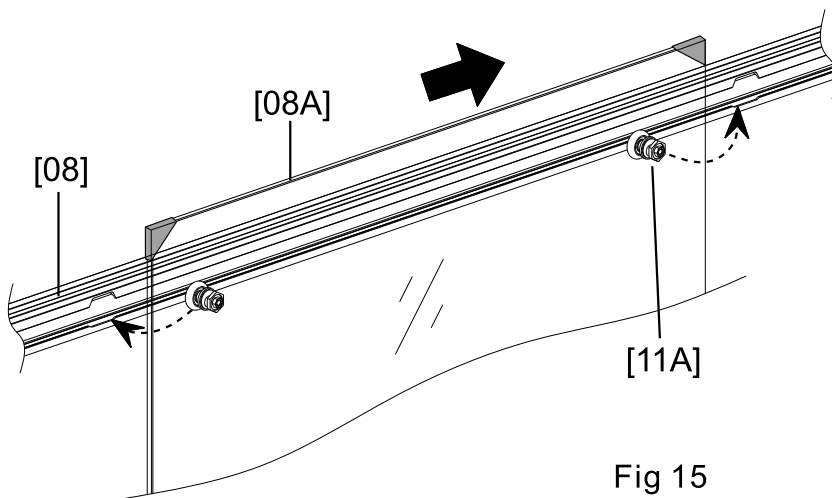

Fig 15
1. From inside the shower, hang the inside **Door Panel [08B]** first. Insert left wheel into the notch in the **Support Bar [02]**. Slide the door to the right and insert the other roller wheel into the second notch while inserting the Glass into the **Bottom Guide [17]**. Add some **Lubricant [23]** to the **Inner Wheels [11A]** if necessary. (Fig 15)